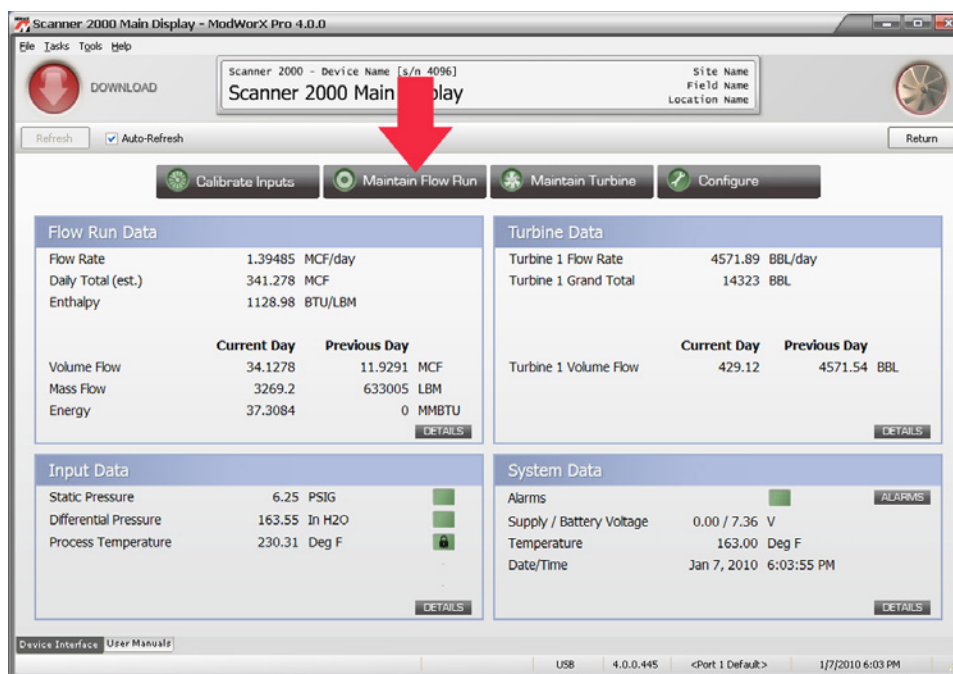

Figure 9.1
1. Click on the **Maintain Flow Run** button in the task menu bar on the Main Display screen (Figure 9.1, page 128).